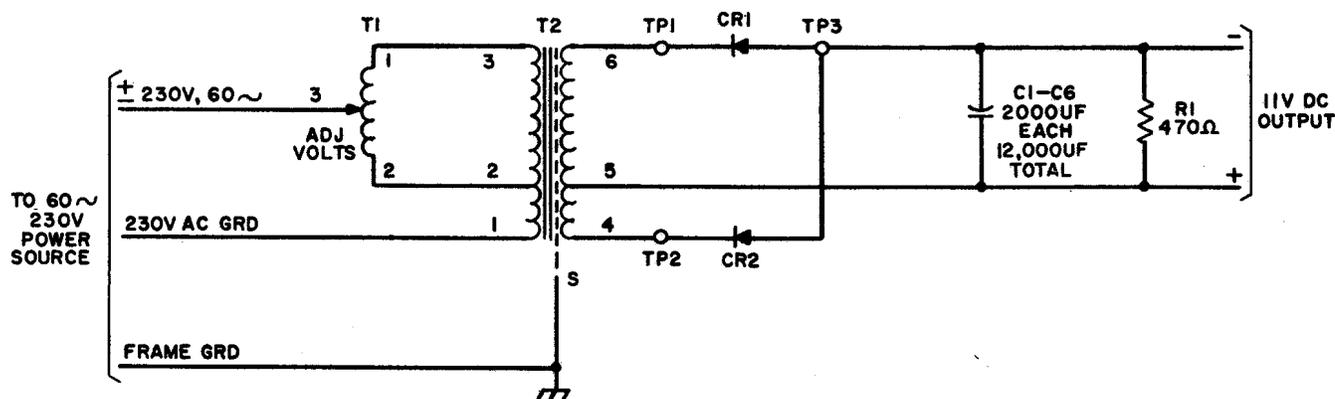

Fig. 1 - J86277A Rectifier — Simplified Schematic
**How the Rectifier Works (See Fig. 1)**